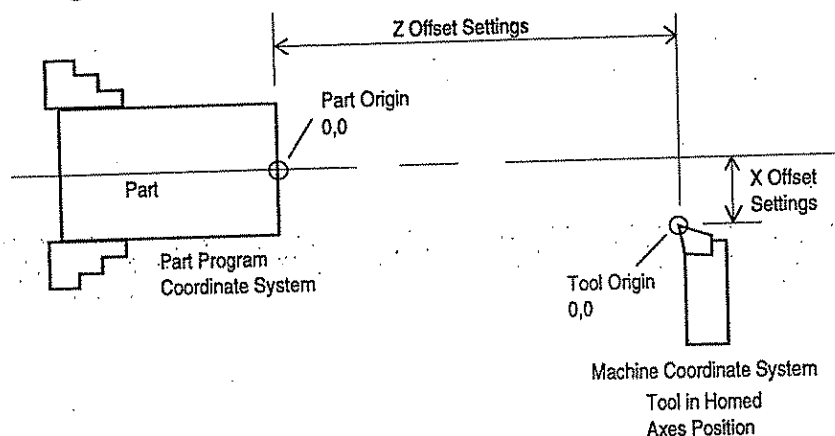

Figure 4-2
**NOTE:** The values entered for **DIA OFFSET** and **Z OFFSET** are not the same as the recorded values in the list of TOOL OFFSETS. This is because the TOOL OFFSETS are the distance from the Machine Coordinate System to the Part Program Coordinate System (Figure 4-2). For this reason it is important to remember which offset is used with each tool. Usually Tool 1 is associated with Offset 1, Tool 2 with Offset 2, etc.